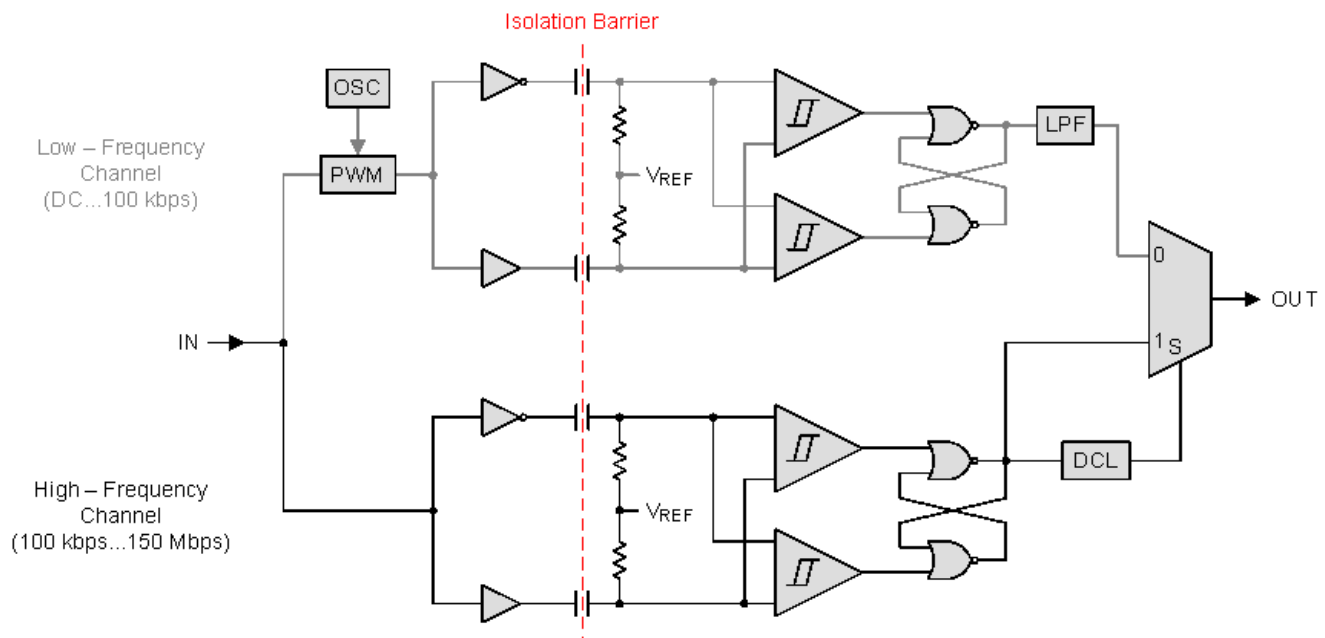

图 14. Conceptual Block Diagram of a Digital Capacitive Isolator
The isolator in 图 14 is based on a capacitive isolation barrier technique. The I/O channel of the device consists of two internal data channels, a high-frequency channel (HF) with a bandwidth from 100 kbps up to 150 Mbps, and a low-frequency channel (LF) covering the range from 100 kbps down to DC. In principle, a single-ended input signal entering the HF-channel is split into a differential signal through the inverter gate at the input. The following capacitor-resistor networks differentiate the signal into transients, which then are converted into differential pulses by two comparators. The comparator outputs drive a NOR-gate flip-flop whose output feeds an output multiplexer. A decision logic (DCL) at the driving output of the flip-flop measures the durations between signal transients. If the duration between two consecutive transients exceeds a certain time limit, (as in the case of a low-frequency signal), the DCL forces the output-multiplexer to switch from the high- to the low-frequency channel.